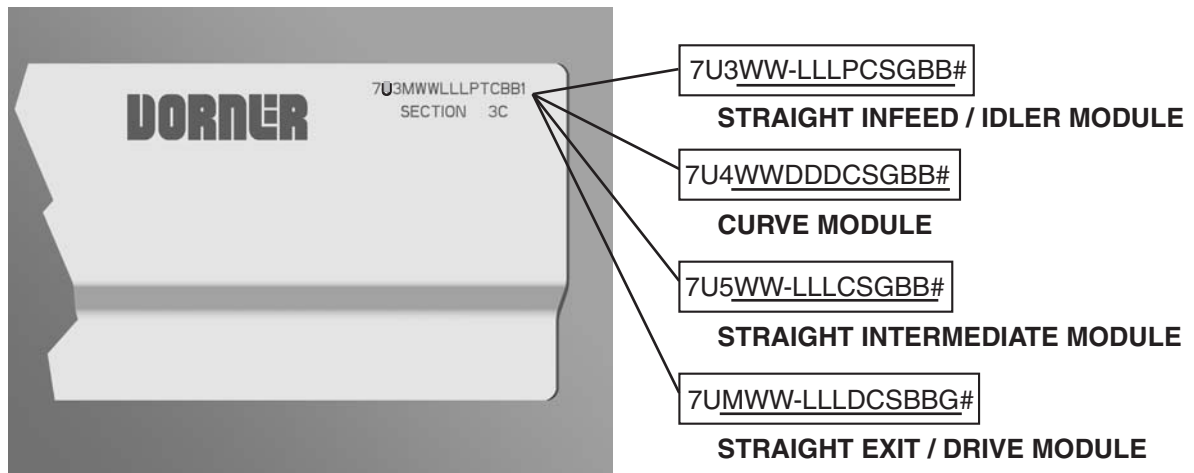

Figure 77
Refer to your serial and model number plate (**Figure 77**). From the model number, determine conveyor width (WW), length (LLL), pulley type (P), stand location, cleaning options (C), stand holes (S), guide profile (G), belt material (BB), degree of turn (DDD), drive/pulley type (D) and module serialized sequence (#).